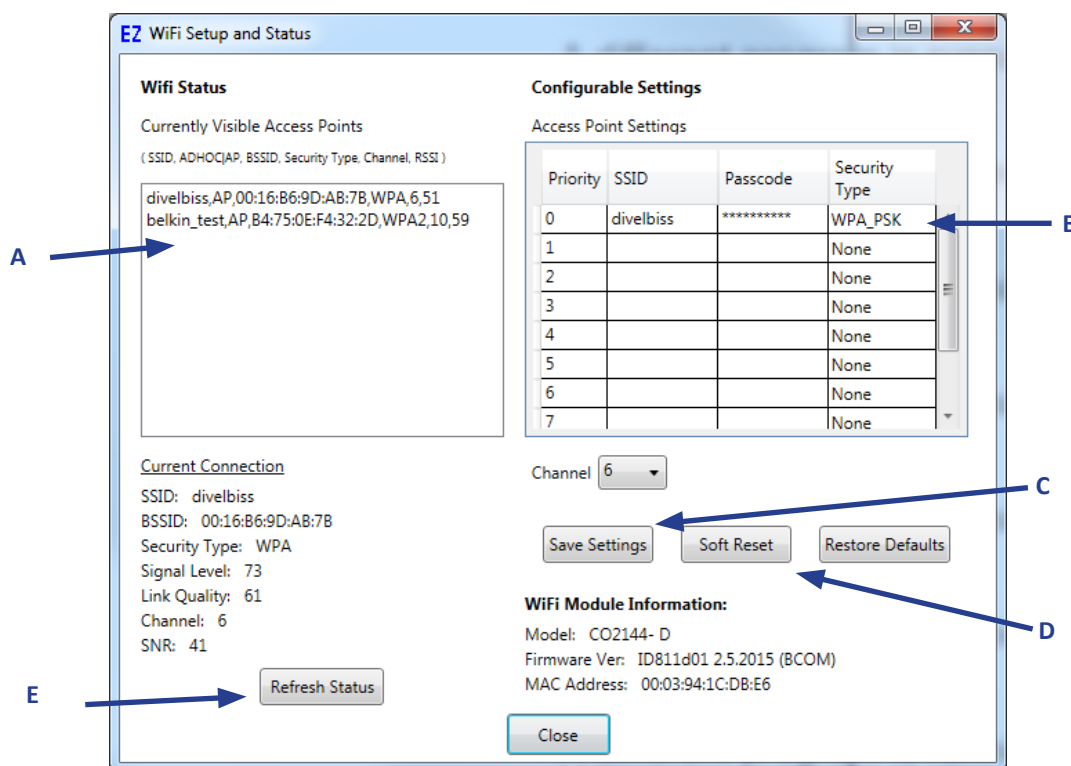

Figure 2-24 - WiFi Setup and Status
5. The **WiFi Setup and Status** window will open. An intermediate temporary dialog may be seen while the Wi-Fi module is accessed and the current Wi-Fi setup read. Refer to Figure 2-24.
6. Referring to Figure 2-24, the *Currently Visible Access Points* (item A) pane shows all the networks currently in-range for the Wi-Fi to detect. **The network must be in-range to be configured.**
7. In the Access Points Settings, enter the **SSID** and **Passcode** in their respective places (item B). It will be necessary to double-click to enter the values. Refer to Figure 2-24.
Multiple Wi-Fi networks may be saved by adding them to list shown in Figure 2-24. Each setting is stored in the on-board Wi-Fi module and is maintained during a power loss. The priority of Wi-Fi network to connect to is based on the priority number in the list.